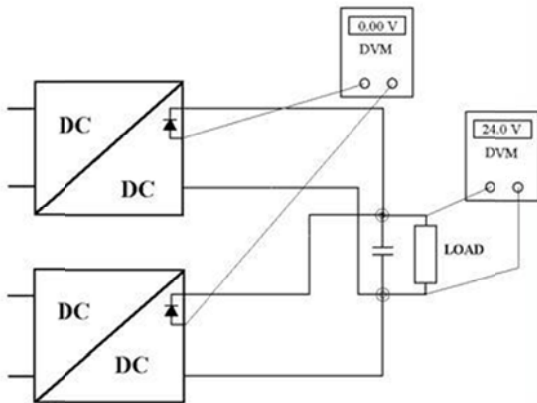

Figure 6. Adjusting output voltage measure at +Test or pin 8 on the H15 connector.
2. Measure the voltage at the load. Connect voltmeters as showed in *Figure 6*. If you have only access to one voltmeter you must move it around to make the adjustments.
3. To **increase** the output voltage. Increase the output voltage by turning the potentiometer marked "V.ADJ" clockwise on the unit with the lowest output voltage until you reach the desired voltage at the load or until the output voltage does not increase anymore (as the unit is in current limit). To find the unit with the lowest output voltage you can measure the voltage difference before the series diode, as in *Figure 6*. Repeat from i. until you reach the desired output voltage at the load.
anymore (as the other units supply all current). To find the unit with the highest output voltage, measure the voltage difference before the series diode, as in *Figure 6*.